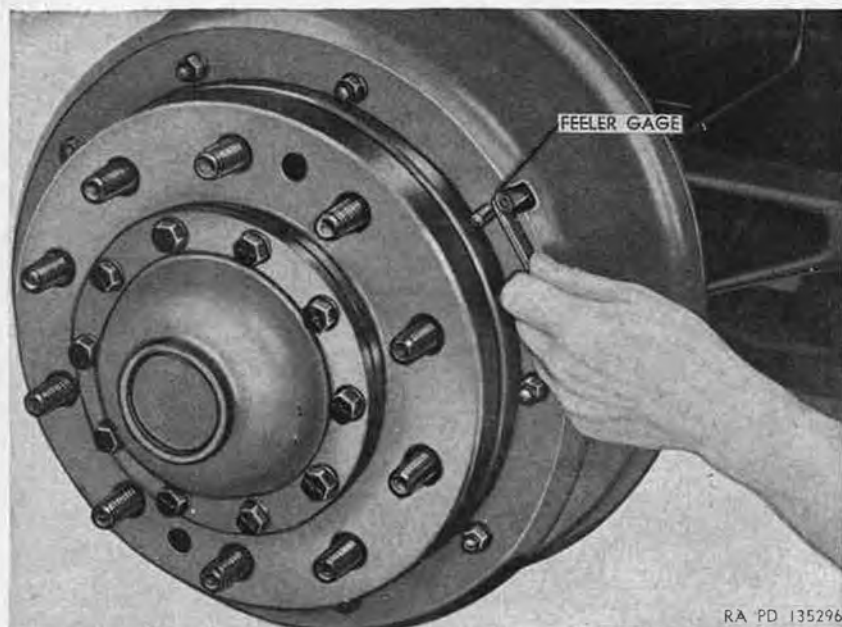
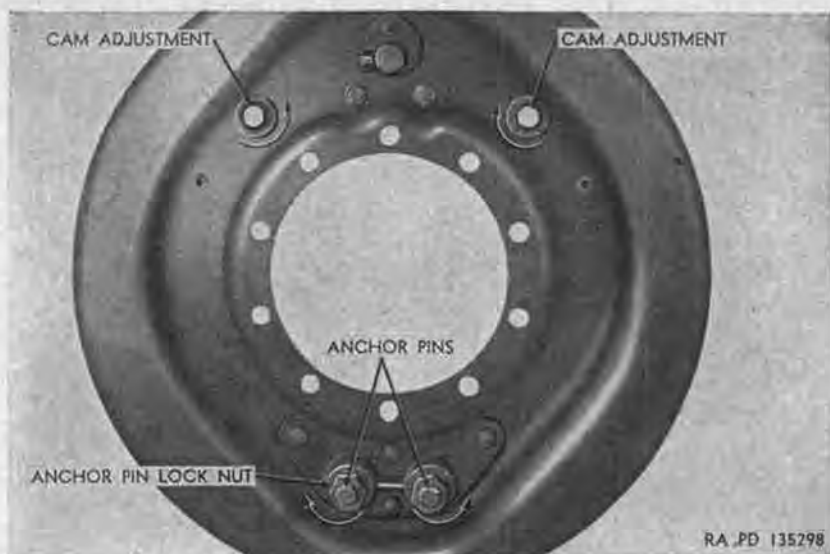

Figure 242. Checking clearance between brake shoe and drum.
Figure 243. View of back side of backing plate assembly removed from axle.
- (2) Rotate brake drum until inspection hole is $11\frac{1}{2}$ inches above lower end of rear brake shoe. Insert feeler gage in inspection hole (fig. 242) to determine clearance between brake shoe and drum. Clearance should be 0.010 inch at this point.
- (3) If clearance between shoe and drum is incorrect, adjust clearance ((a) and (b) below).
- (a) Loosen rear anchor pin locknut (fig. 243) at back side of backing plate.
- (4) Rotate brake drum until inspection hole is $11\frac{1}{2}$ inches below upper end of rear brake shoe. Insert feeler gage in inspection hole to determine clearance between brake shoe and drum. Clearance should be 0.020 inch at this point.
- (7) Holding anchor pins (fig. 243), to prevent them from turning, tighten both anchor pin locknuts and check brake shoe clearances again.